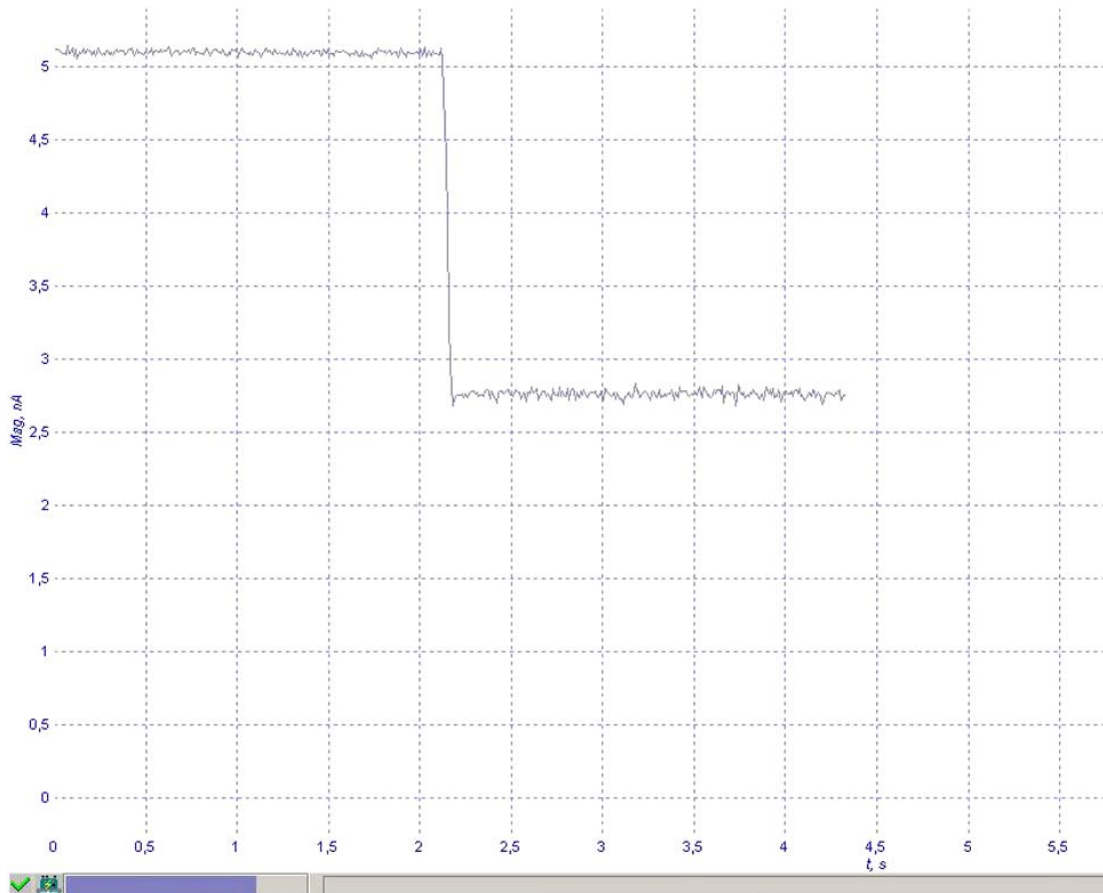

Fig. 3-18
5. Turn on the feedback (  **FB** button on the main parameters panel is pressed in). Once the feedback is on, **Mag** signal will fall to the level of **Set Point** (Fig. 3-18).